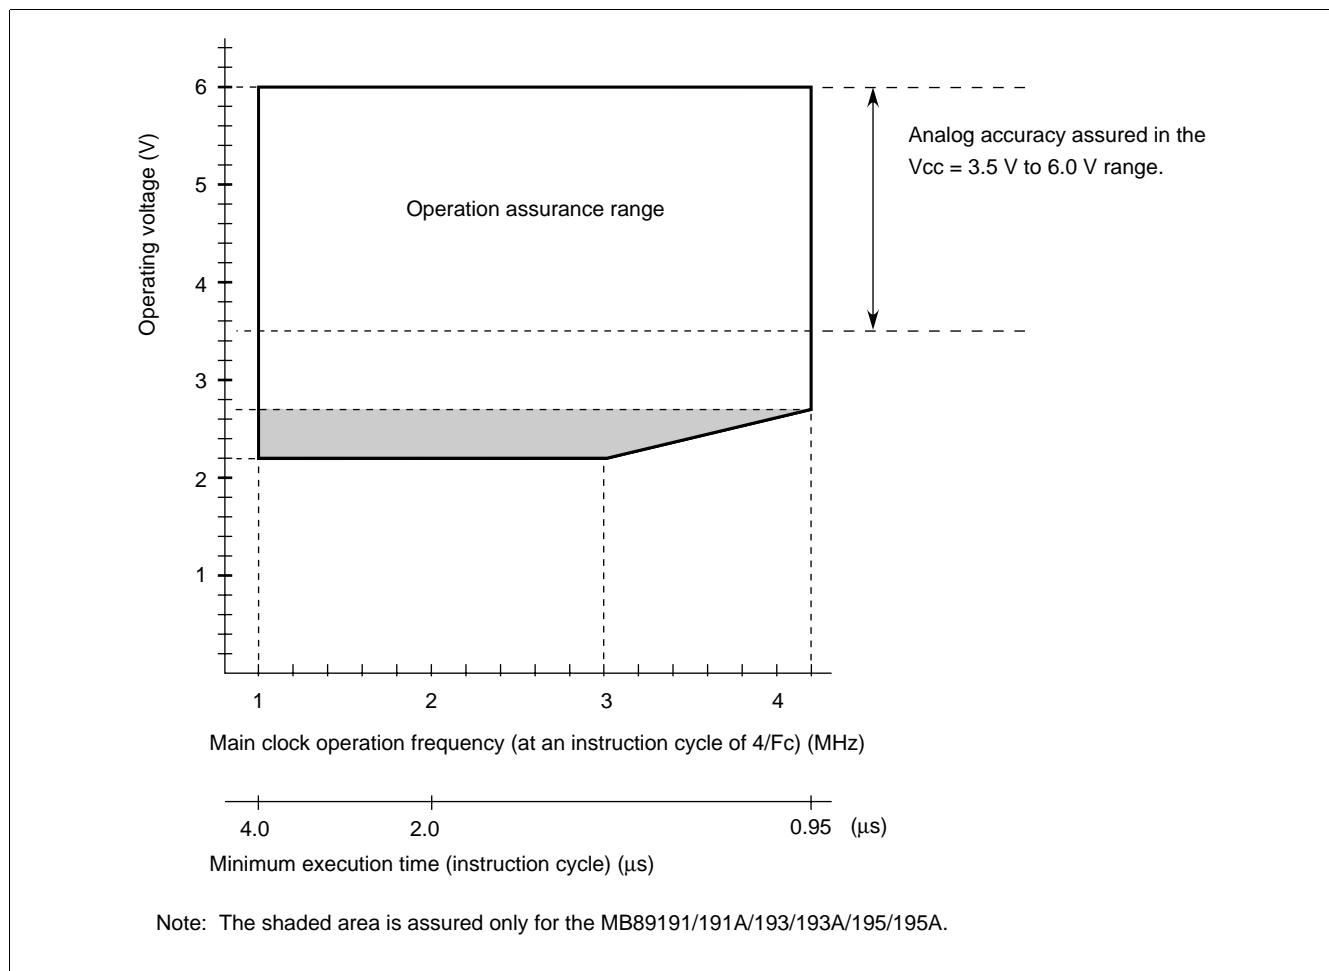

Figure 1 Operating Voltage vs. Main Clock Operating Frequency
* : These values vary with the operation frequency and the assured analog operation range. See Figure 1 and "5. A/D Converter Electrical Characteristics."
Figure 1 indicates the operating frequency of the external oscillator at an instruction cycle of 4/Fc.